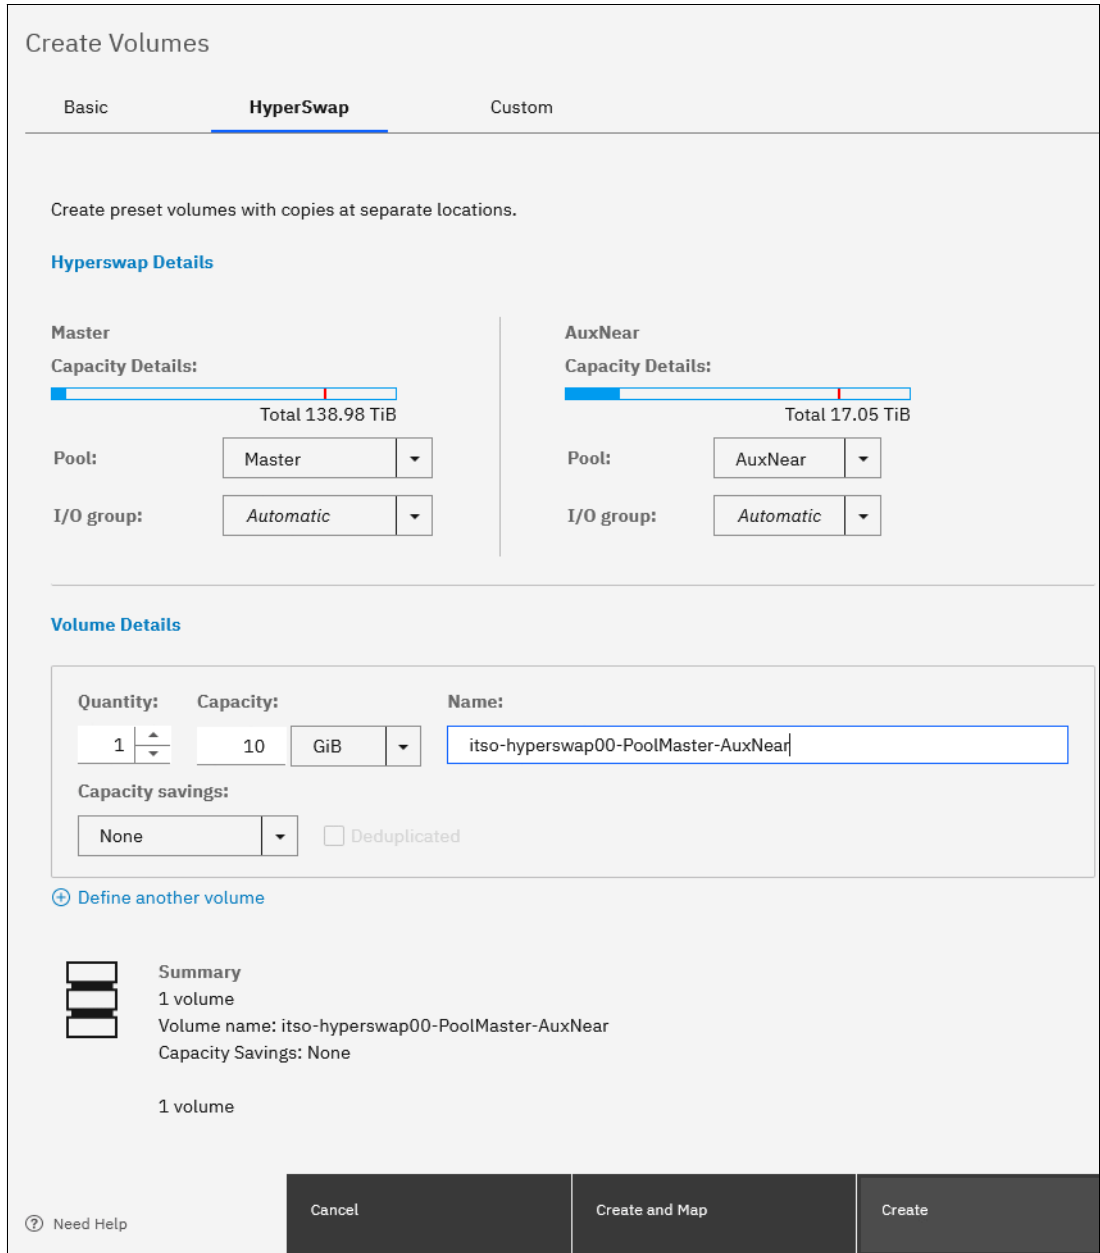

Figure 6-29 HyperSwap volume creation window
As shown in Figure 6-29, a single volume is created with volume copies in sites site1 and site2. This volume is in an active-active (MM) relationship with extra resilience that is provided by two change volumes.